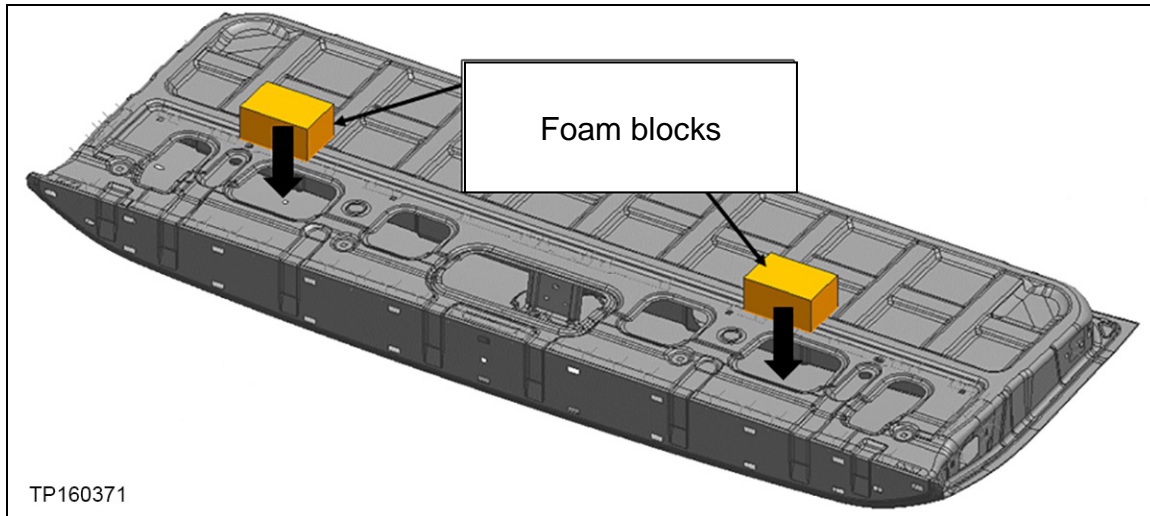

Figure 2
4. Install two foam blocks into the tailgate as shown in Figure 2 as follows: